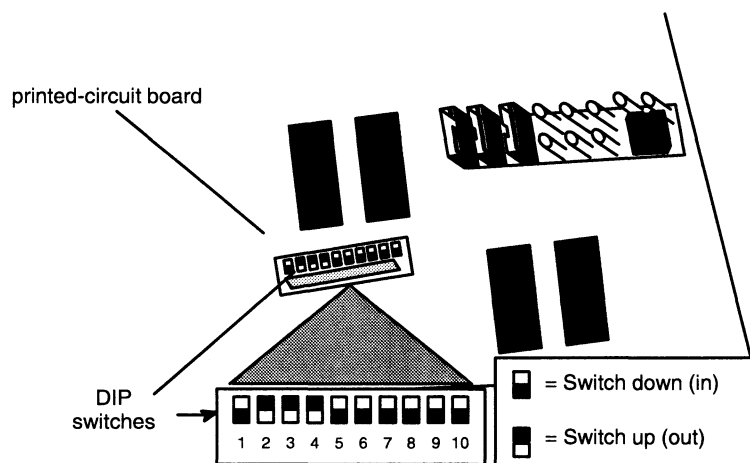

Figure 6-4 DIP Switches on Printed-Circuit Boards
- Use a nonmagnetic pointed device to carefully push the proper switch(es) to the in or out position, as required. Figure 6-4 shows a typical row of DIP switches.